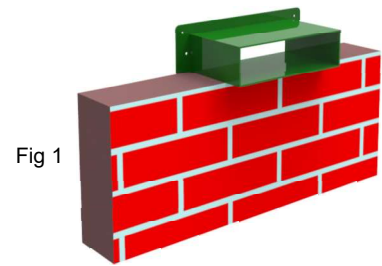

Fig 1
- Build the wall up as shown in *Figs 1 and 2*. To accommodate the slope of the chute, the bricks will need to be shaped if they are thicker than 100mm or when building a double wall. Before placing the chute on the wall, insert a bead of silicon sealant around the flange. *Fig 6*. Finish building the wall ensuring that the bricks immediately above the chute butt up to both the flange and the container to form a seal with the silicon.